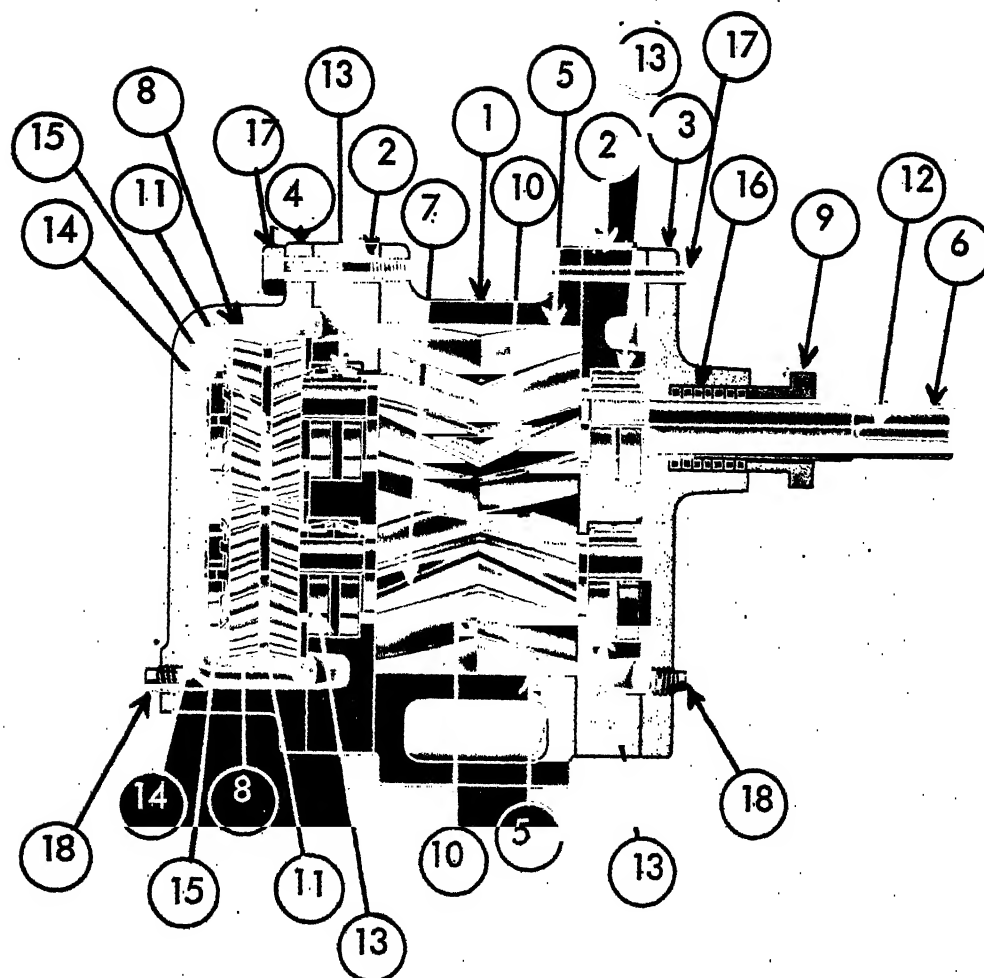

FIGURE 57. CIRCULATING PUMP ASSEMBLY AND DISASSEMBLY
2. Refer to Fig. 57 and disassemble the circulating pump.
1. Refer to Fig. 57 and reassemble the circulating pump.
LEGEND FOR FIGURE 57